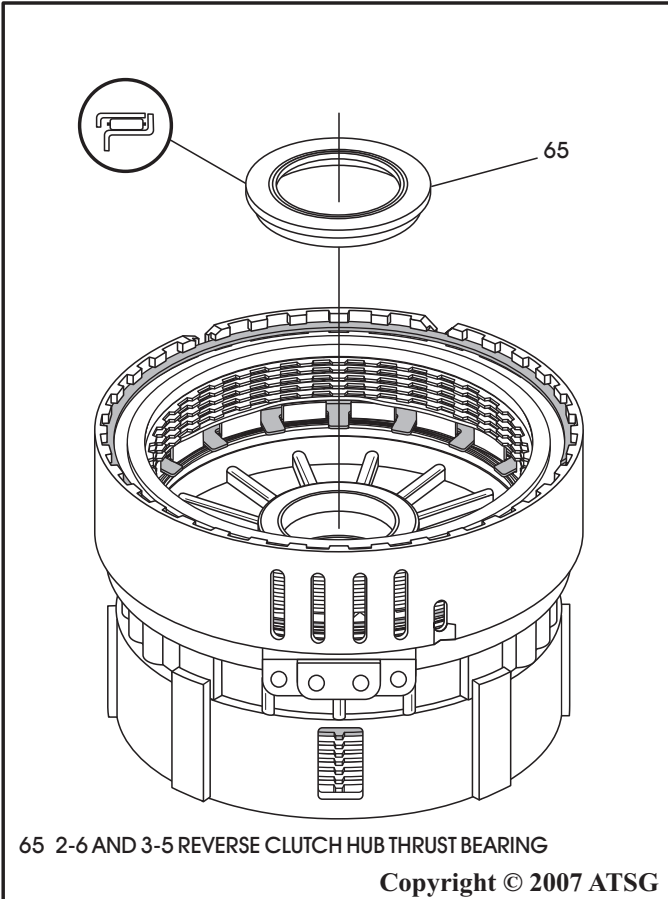

Figure 118
29. Install the 2-6 and 3-5 reverse clutch hub thrust bearing in the direction shown in Figure 118, and retain with a small amount of Trans-Jel®.